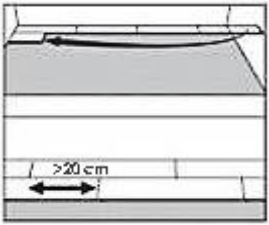

Figure 2
- Position the first plank of the second row by angling it up slightly, pushing forward and interlocking the side tongue (**Figure 2**). Slide the plank to the right to align the edges of the end joint.